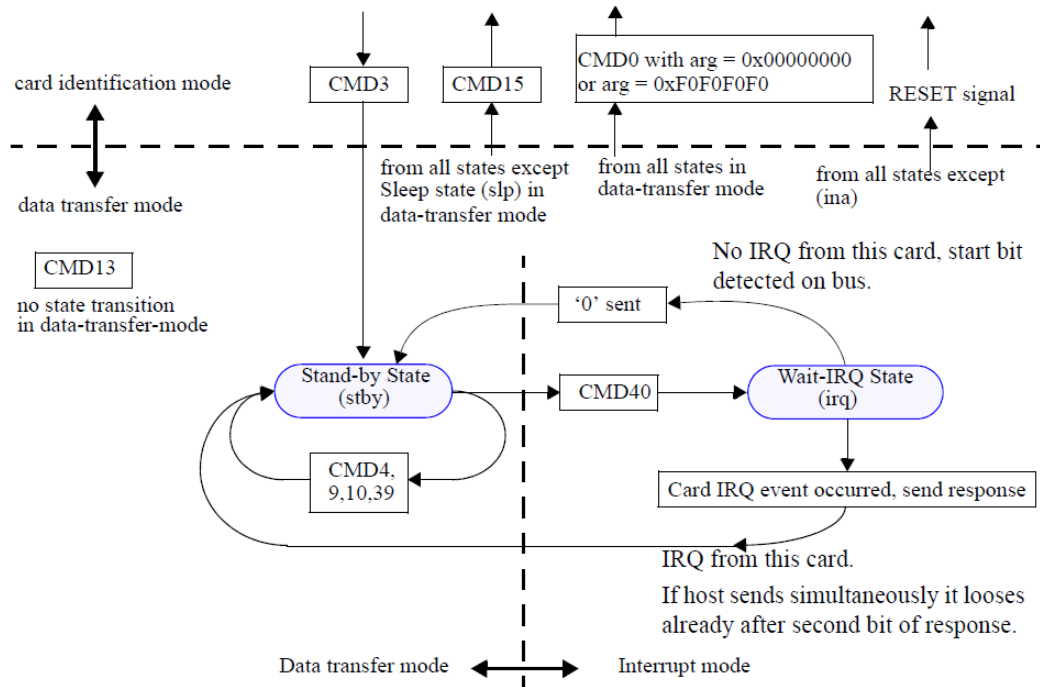

Figure 23 - eMMC state transition diagram, interrupt mode
- The system behavior during the interrupt mode is described in the state diagram in Figure 23.